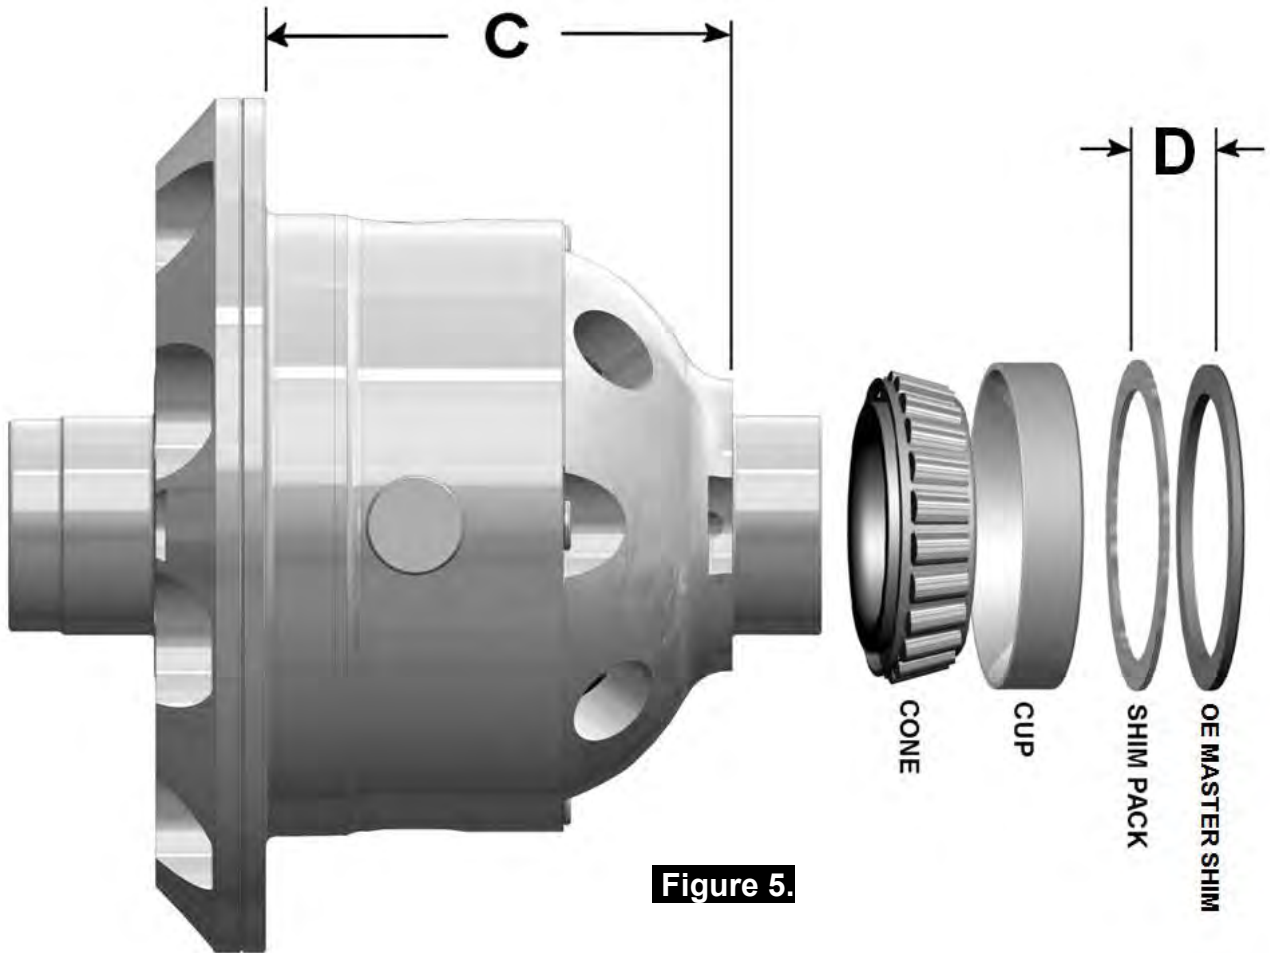

Figure 5.
The original bearing type and shim type are used on the right hand (case) side of the Air Locker (as pictured in Fig.5.). Measurements will, however, need to be taken to determine the correct shim thickness for this side in order to reproduce a similar backlash and pre-load to that of your existing differential.
- Measure the distance from the *Air Locker* bearing shoulder to the ring gear mounting face (shown as 'C' in Figure 5.) and record this measurement as 'C'.
The thickness of the shim pack required for the *Air Locker* (shown as 'D' in Figure 5.) can now be determined by substituting the measurements taken into the following equation.